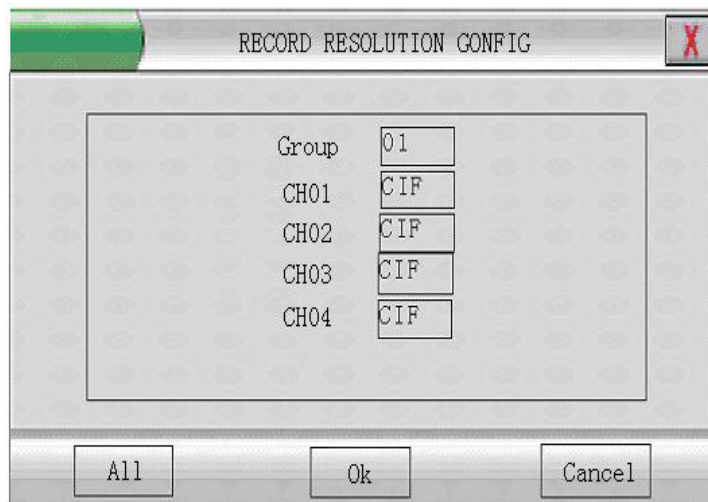

Figure 35 Record Resolution Config
2. Press “OK”, enter “**Record resolution config**” menu. Move the cursor using “Up” and “Down”; Set resolution using “Left” or “Right”, the channel group can be set 01 to 08, each group has 4 channels, and each channel can be set to CIF, HD1, or NULL, the default is: CIF. If you set any channel resolution to HD1 in any group, only the first and third channel can be set to HD1, then set other channel to NULL make all settings effective. Please refer to Figure 35: